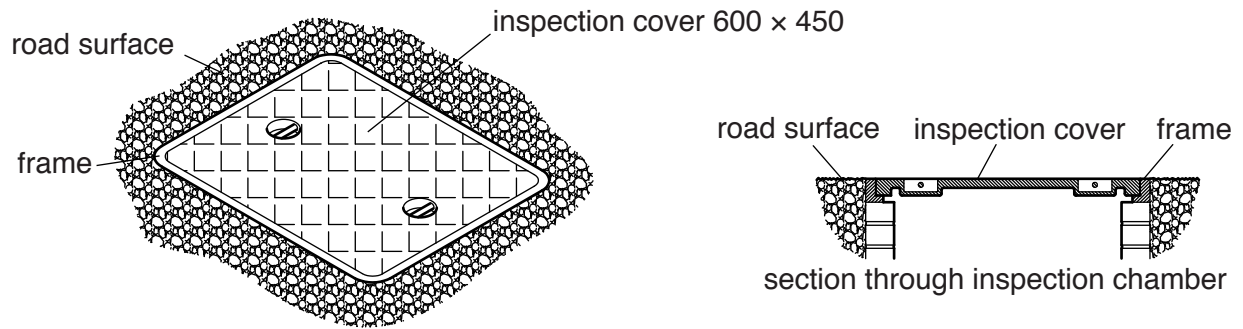

Fig. 10
- (e) Fig. 10 shows an inspection cover that requires lifting. The downward force of the cover is 300 N, which is too much for one person to lift safely.